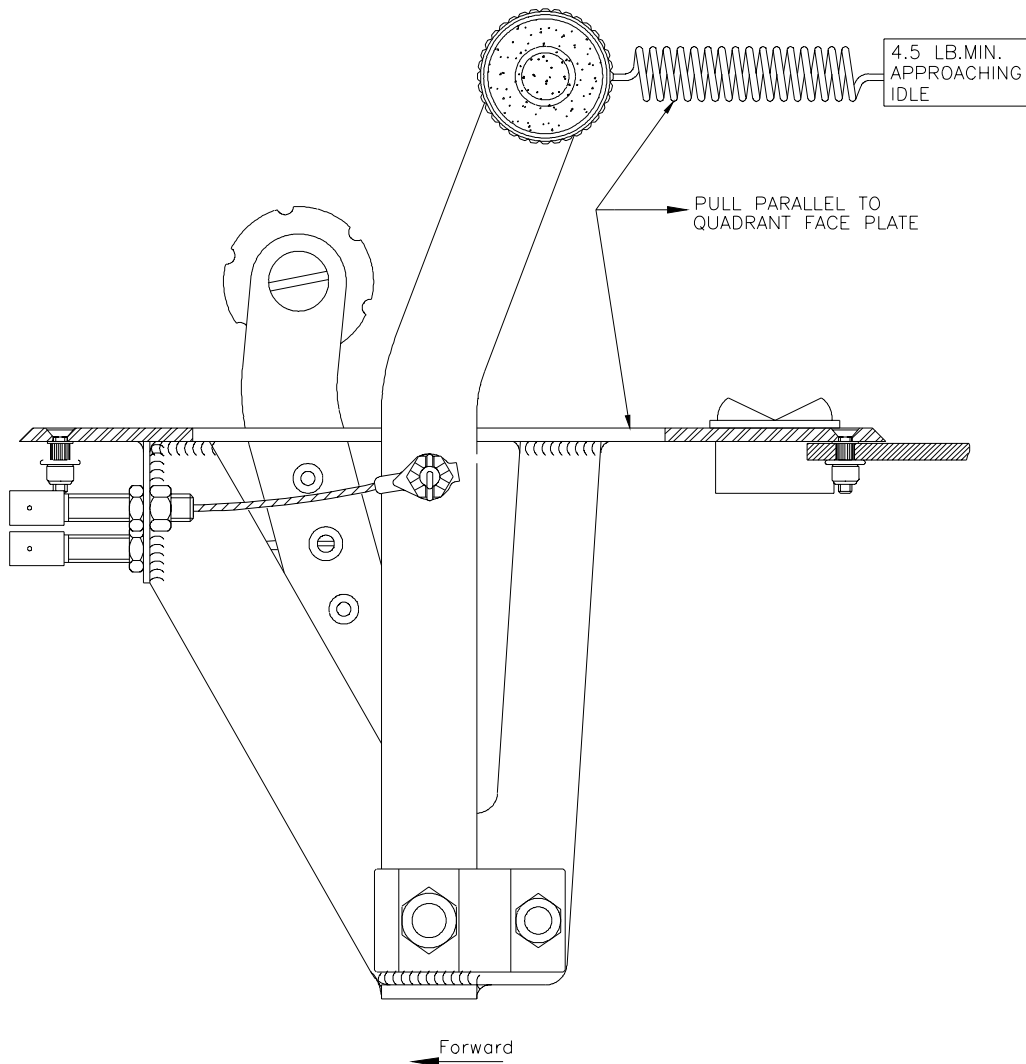

Figure 5
- 10.20 Refer to figure 5. With throttles rigged (ie. all springs installed) adjust the self locking nut so that a preload force of 4.5 lbs min (2 Kg) is required to pull the throttle lever aft when it is a point 0.25" (6mm) before the end of travel.